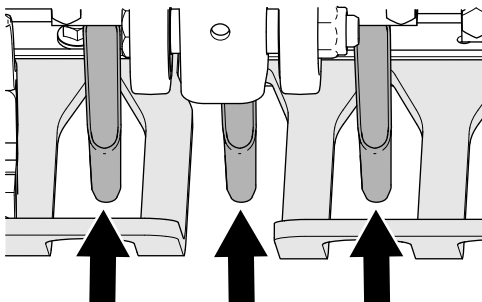

Figure 44
4. Check the alignment of the turf guard slots to the tines to ensure that they are centered (Figure 44).